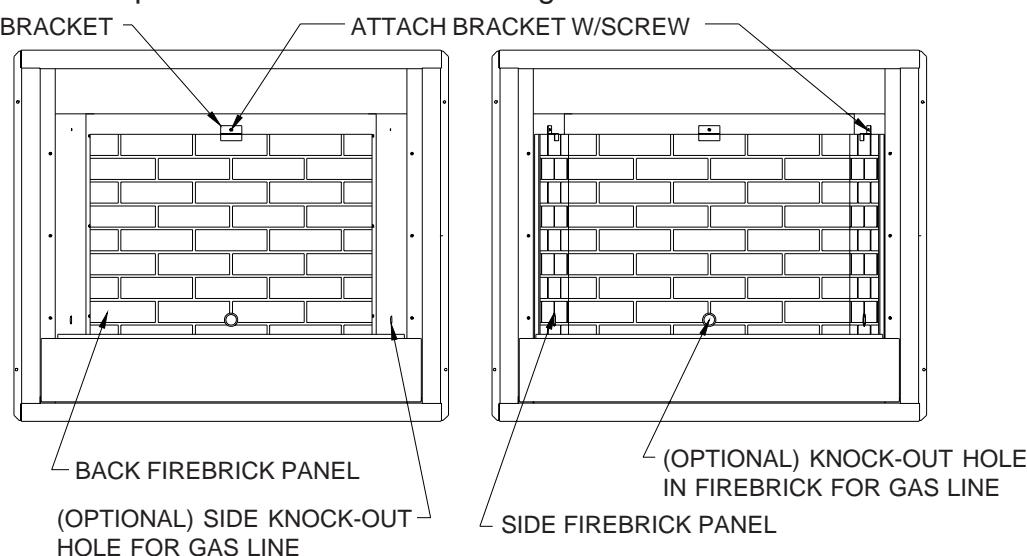

Figure 5a
1. Before installing the firebrick panels you must first remove the brick brackets. A 5/16" nut driver will be required. (See *Figure 5a & b*, below for location)
4. Place the back firebrick panel in the firebox, as shown in *Figure 5a*.